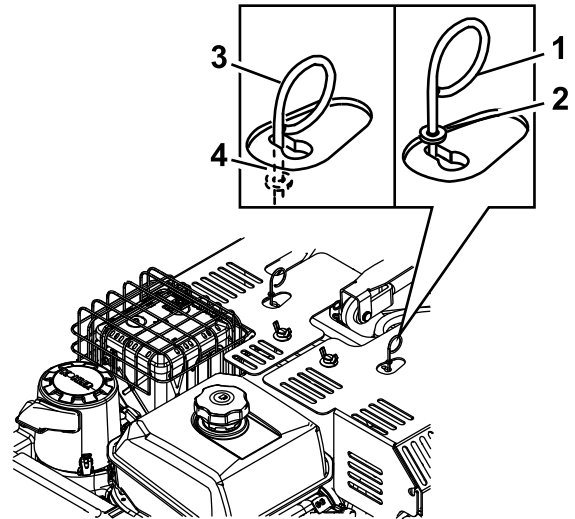

Figure 29
2. Move the lever to the larger opening of the slot (Figure 29).
3. Push the lever downward until the washer is inside of the frame (Figure 29).
4. Move the lever to the narrow portion of the slot, and release the lever (Figure 29).
2. Move the release-valve lever to the larger opening of the slot (Figure 29).
3. Pull the lever upward until the washer is outside of the frame (Figure 29).
4. Move the release-valve lever back to the narrow portion of the slot, and release the lever (Figure 29).